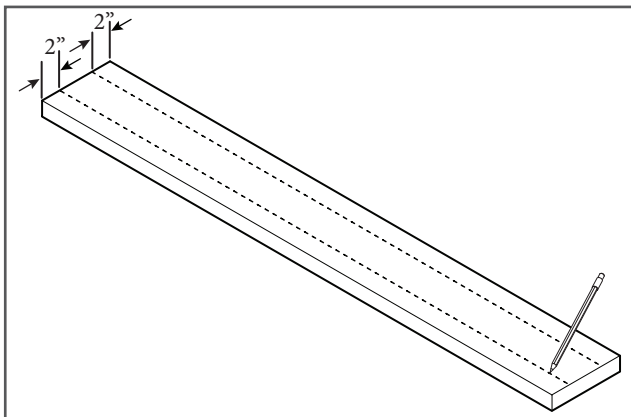

Figure 4
5. Lay the header on a flat clean surface. Using a measuring tape, measure and mark 2" from the bottom of the header and 2" from the top of the header. Using a pencil, draw two lines, one for the top and one for the bottom of the header (Figure 4).